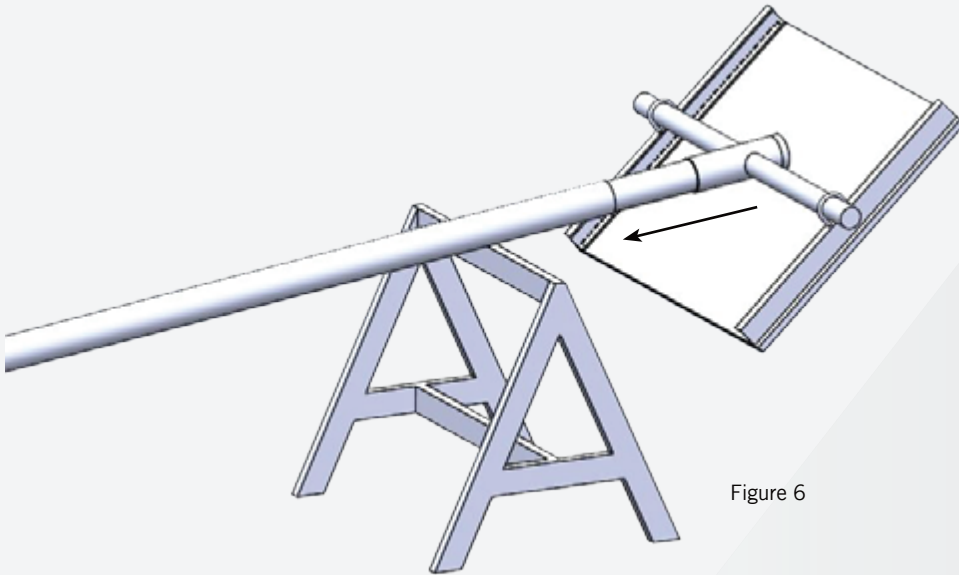

Figure 6
3. Remove the protective membrane covering the support and the panel; pass all wiring through the top opening of the pole. The solar panel wiring (black/white wire pair) should reach the service opening at the base of the pole. Insert the solar panel support into the pole, being careful not to pinch the wires (Figure 6).